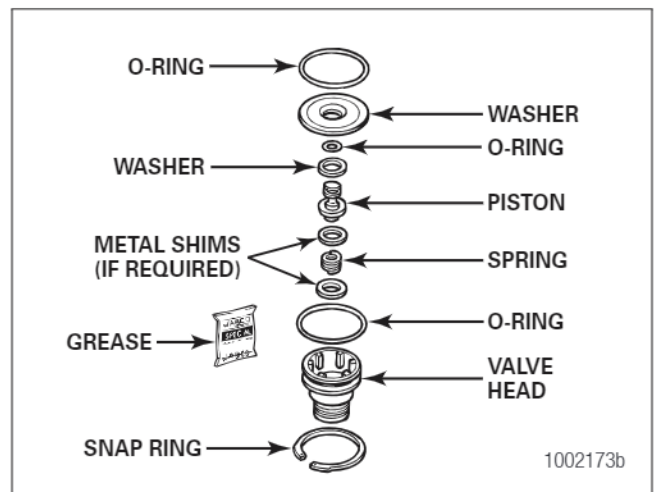

Figure 3.13
1. Review Figure 3.13 to ensure you have all of the parts required to replace the purge valve.